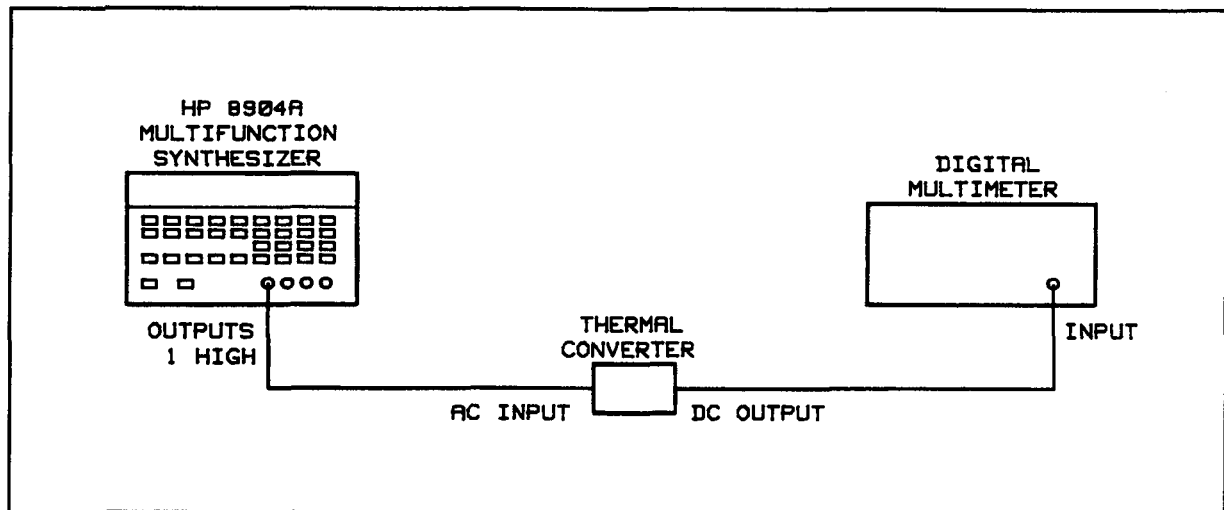

Figure 4-2. AC Amplitude Flatness Performance Test Setup
- Connect the ac input of the thermal converter to the Multifunction Synthesizer's OUTPUTS 1 HIGH output. Connect the dc output of the thermal converter to the input of the voltmeter. Refer to Figure 4-2.
8. Connect the ac input of the thermal converter to the Multifunction Synthesizer's OUTPUTS 2 HIGH output. Connect the dc output of the thermal converter to the input of the voltmeter. Refer to Figure 4-2.